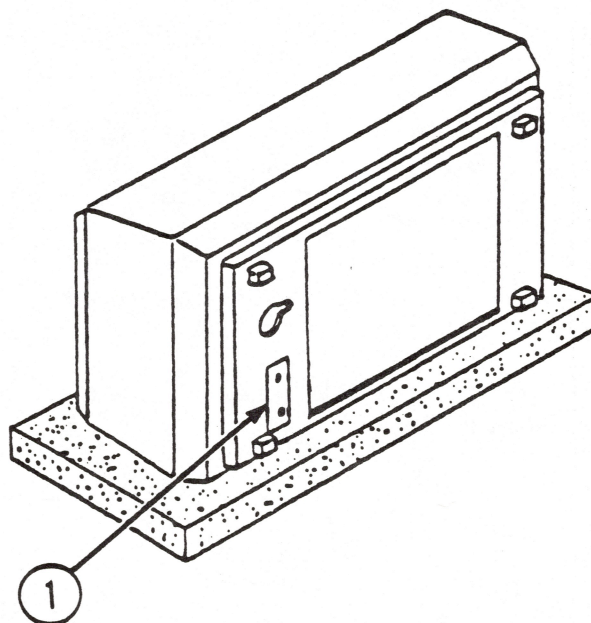

FIGURE 2
1. Make sure the threaded plate under the bottom of the printer is in position (see Figure 2, #1).